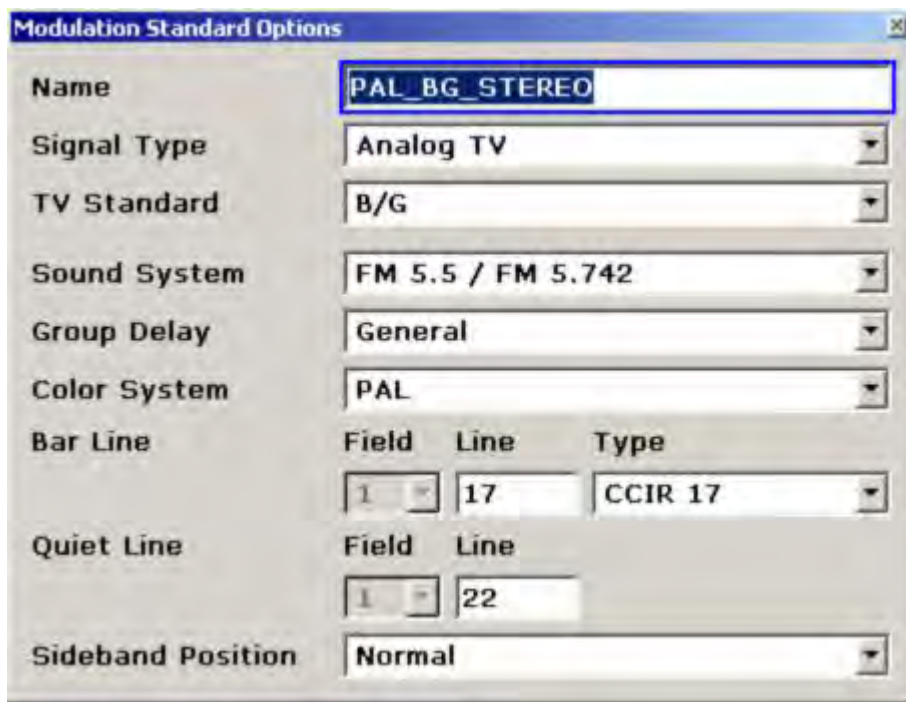

Fig. 2–47 **Modulation Standard Options** dialog box for analog TV
For analog TV the **Modulations Standard Options** dialog box (see Fig. 2–47) is structured as follows:
- The channel table references modulation standards by their **Name**. Its name (see Fig. 2–48) should comprise information about the used TV standard, the color system and the sound system, e.g. "PAL_BG_STEREO".